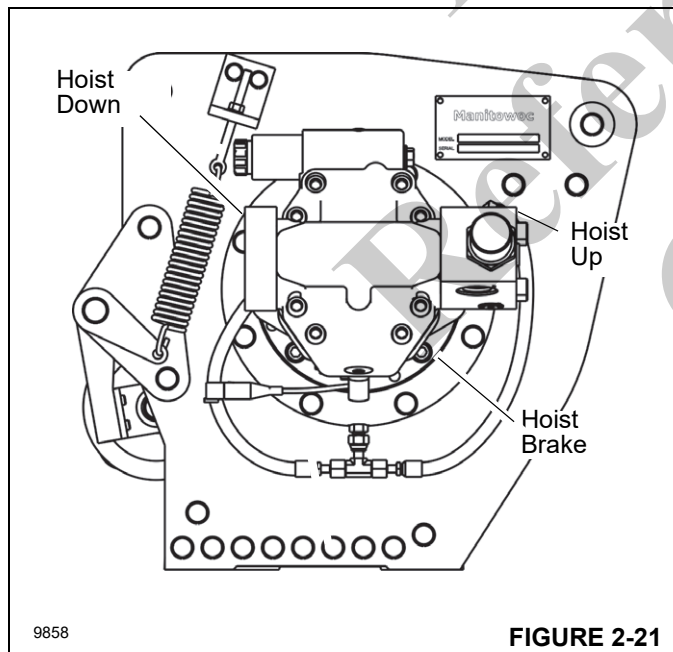

FIGURE 2-21
- Method #1: Leave the main hoist up/down hoses connected to the motor and cap the main hoist brake line at the hoist down block on the hoist with a #4 JIC Cap. Using this method, activate the hoist down function to develop maximum pressure (Figure 2-21).
- Method #2: Disconnect and cap the main hoist up/down hoses. Refer to Figure 2-21. Using this method, activate the hoist up or hoist down function to develop maximum pressure.
Method #1: Leave the main hoist up/down hoses connected to the motor and cap the main hoist brake line at the hoist down block on the hoist with a #4 JIC Cap (Figure 2-21). Using this method, activate the hoist down function to develop maximum pressure.
Method #2: Disconnect and cap the main hoist up/down hoses (Figure 2-21). Using this method, activate the hoist up or hoist down function to develop maximum pressure.
Method #1: Leave the main hoist up/down hoses connected to the motor and cap the main hoist brake line at the hoist down block on the hoist with a #4 JIC Cap. See Figure 2-21. Using this method, activate the hoist down function to develop pressure.